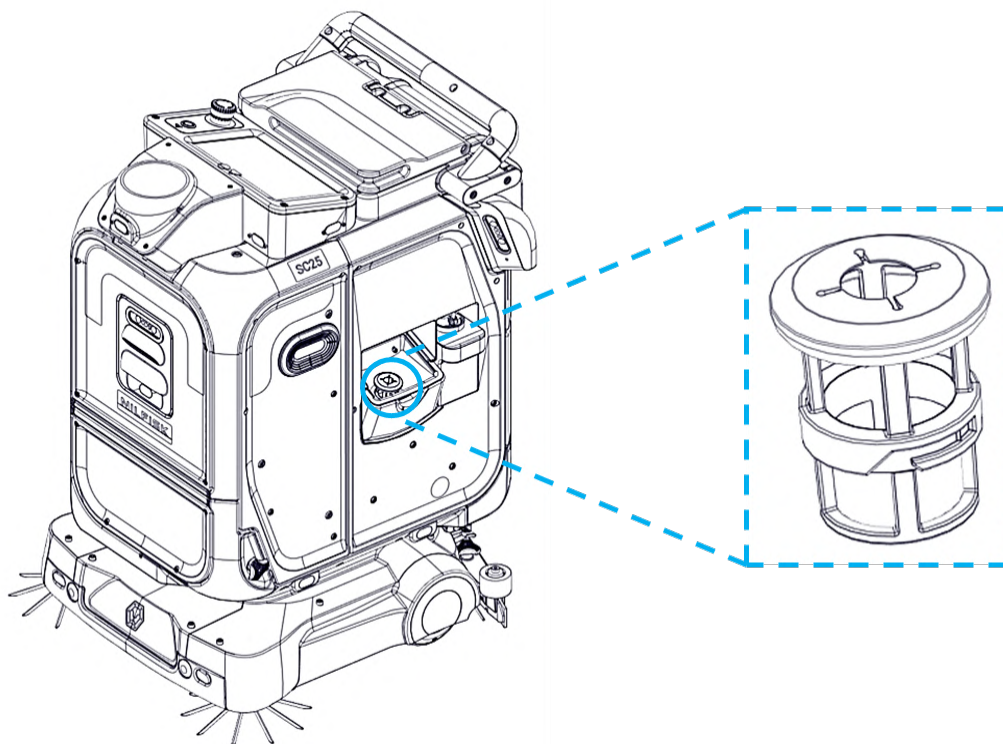

FIGURE 10-8
1. Unscrew the water filter from the top up tray (**Fig 10-8**).